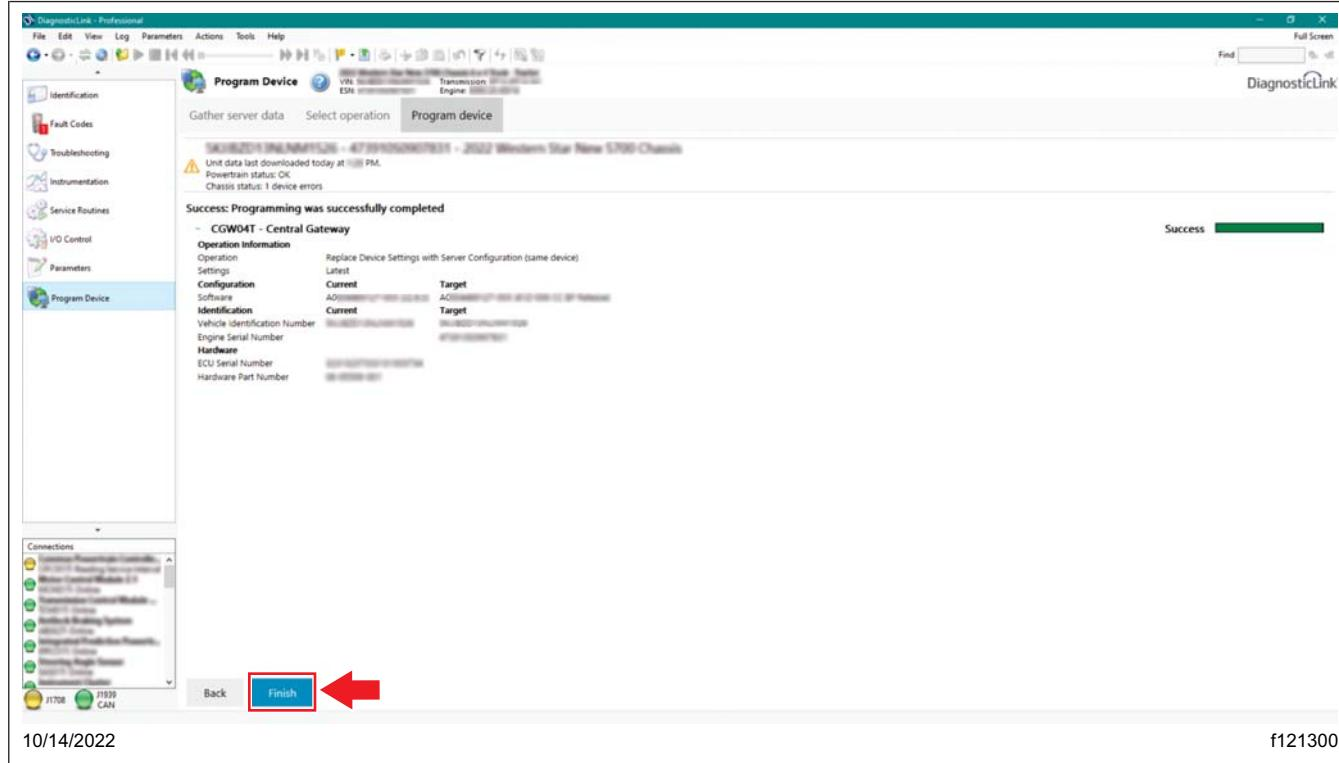

Fig. 17, Flashing Successful
21.5 Once the flashing is successful, select 'Finish.' See **Fig. 17.**